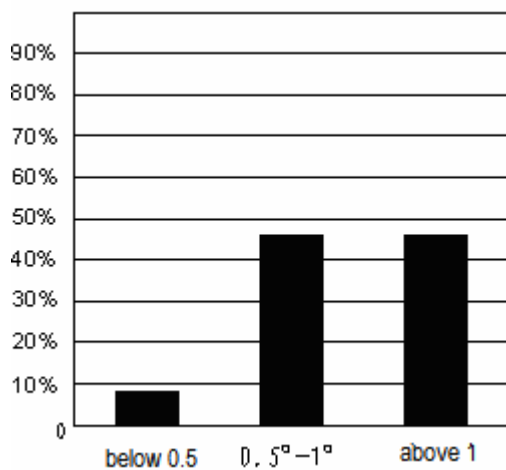

Figure1- Accuracy range
6. Sketch map of accuracy range and operating current range, (See figure 1 and 2)